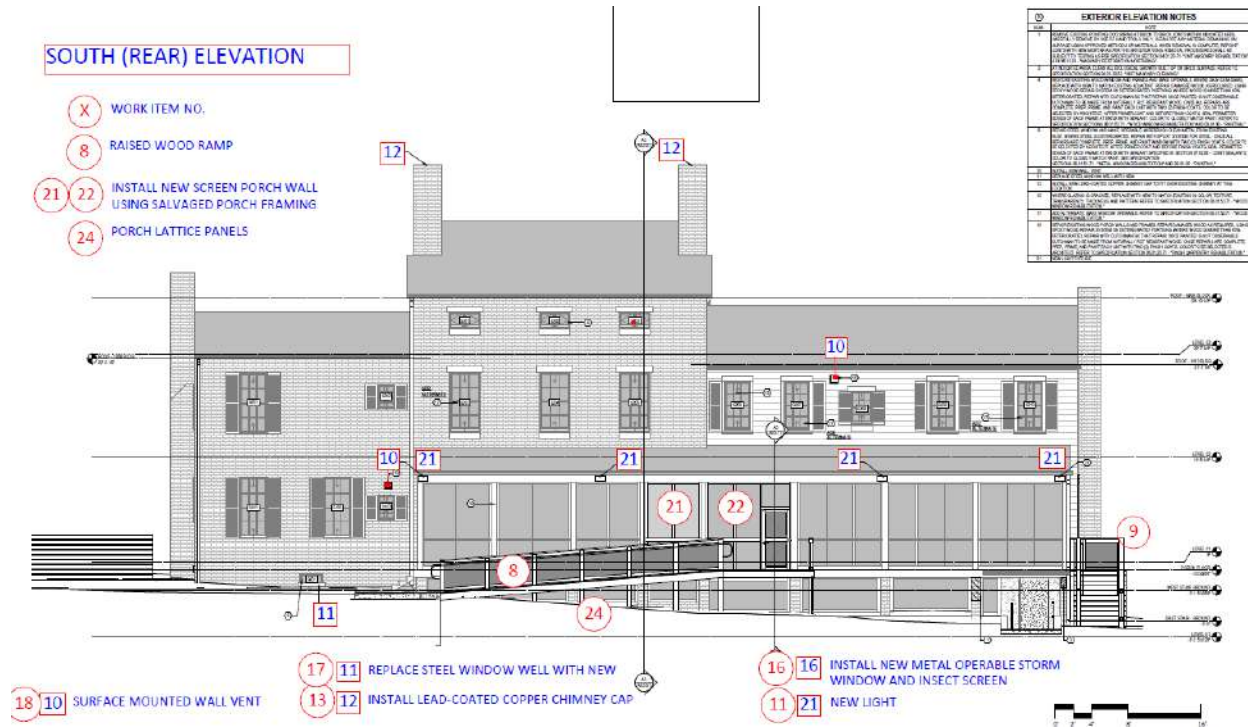
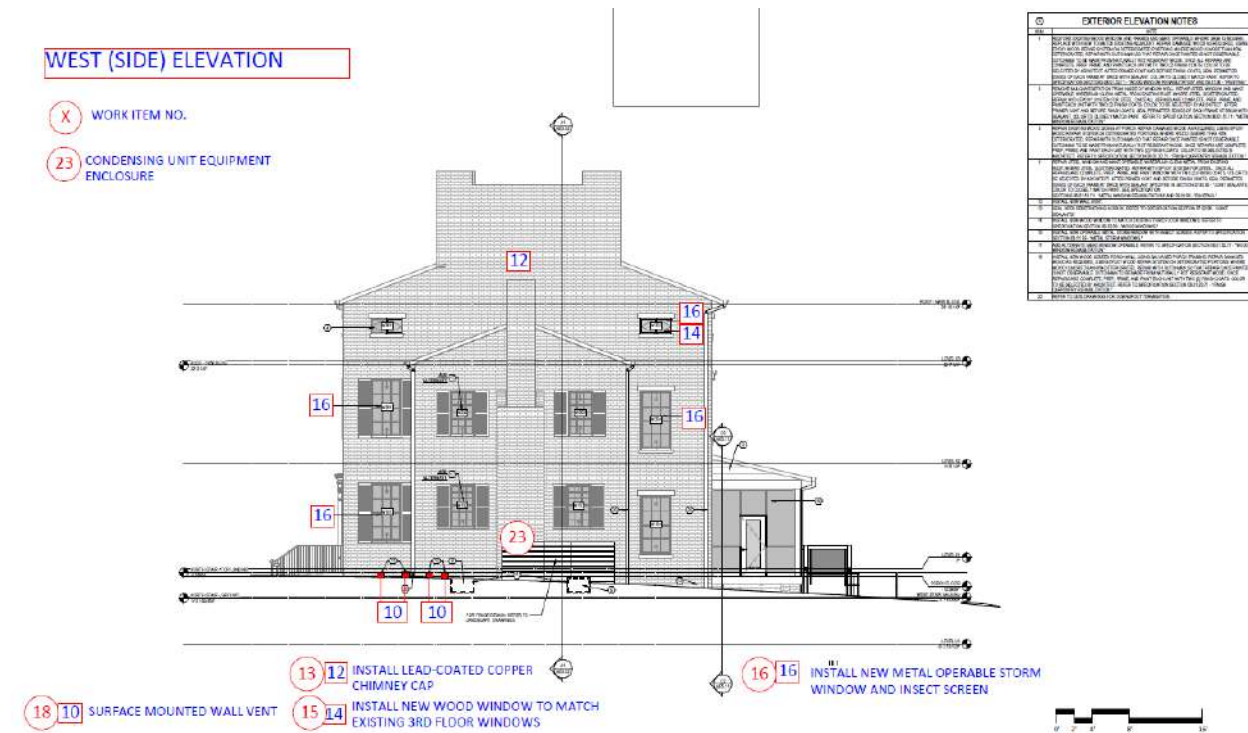
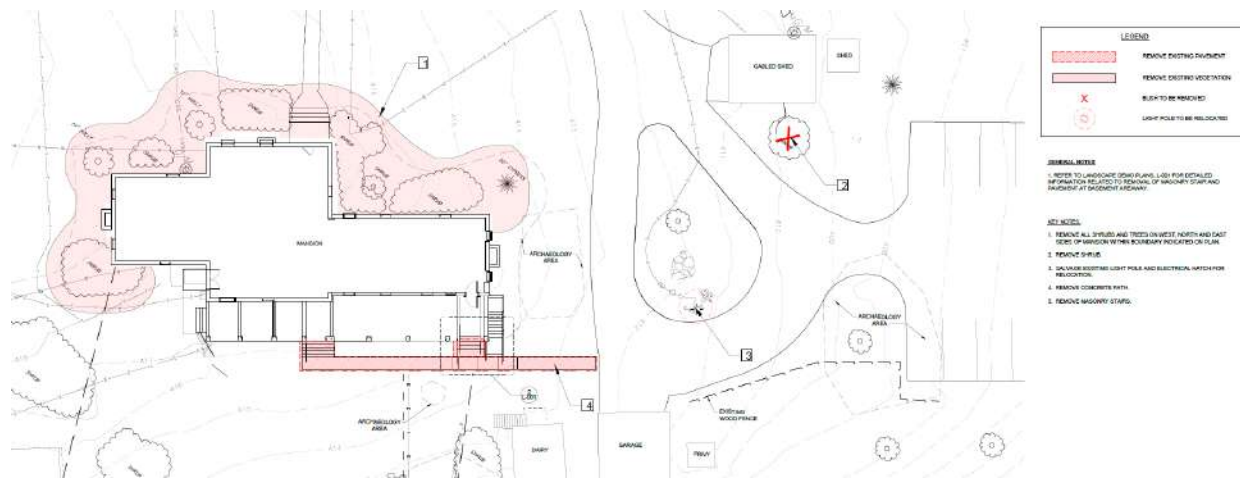
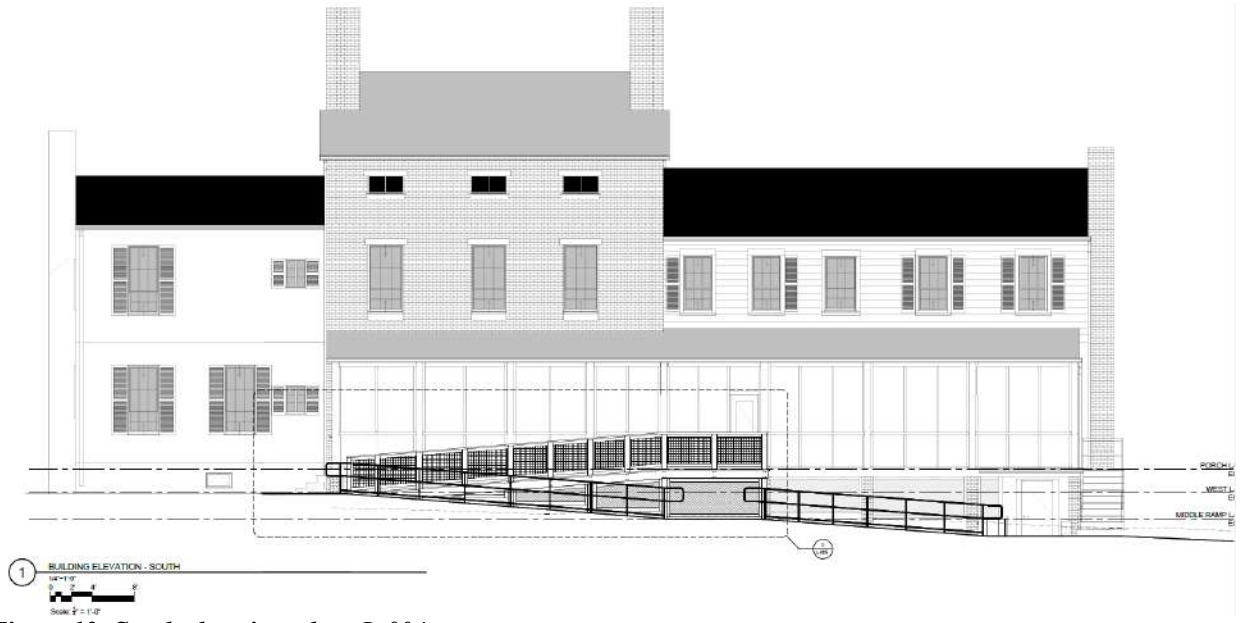

Figure 5: South elevation with work items highlighted.
Figure 6: West elevation with work items highlighted.
Figure 12: Site demo plan, sheet C-001.
Figure 13: South elevation, sheet L-004.
During the preliminary consultation, the HPC and staff also expressed concern about the penetration of vents through the exterior brick walls and encouraged the applicants to consider alternative locations for these vents and to attempt venting through the chimneys. If alternative locations could not be found, the HPC stated that no vents should be located on the front façade. The applicants explained in an email to staff that, “due to the location of most of the vents, venting through the chimneys would not be ideal as it would create multiple bulkheads and chases on the interior which would affect many historic finishes. It would also cause inefficiencies in the exhaust system due to the long runs and would require an exhaust blower.” In this revised application, the applicants have removed the vents from the front façade but in still propose to vent through the brick on other elevations (Work Item 18/Note 10, Figure 4, Figure 5, Figure 6). Two vents are proposed through the brick of the east side elevation of the main block between the second and third floor floors; one through the first-floor south (rear) elevation of the western wing; two through the west side elevation of the main block at ground level; and two through the west elevation of the western wing at ground level.
- the removal of the rear porch stairs and construction of on-grade and raised ramps (Work Items 7 and 8, *Figure 12*, *Figure 13*, and *Figure 14*); and,
Following the preliminary consultation, the applicant submitted additional drawings showing the proposed ramp in elevation (*Figure 5*, *Figure 13*, *Figure 14*), and an example of the proposed mesh railing and painted wood railing (*Figure 15*). The applicant confirmed by email that the proposed guardrail ramp will be painted a similar green color to the example photographs, because Needwood Mansion has other green accents in the porch lattice and shutters.
Staff supports the installation of new wood windows at the basement on the front elevation and third floor of the west elevation (Work Items 14 and 15 on *Figure 3* and *Figure 6*, respectively) and finds the work meets both Chapter 24A-8(b) and the applicable *Standards*. The replacement windows are to match the others wood windows found on the corresponding elevations, so they will be compatible to the historic site. Staff recommends that the applicant submit window shop drawings demonstrating that the new window will match the existing windows to staff for final approval.